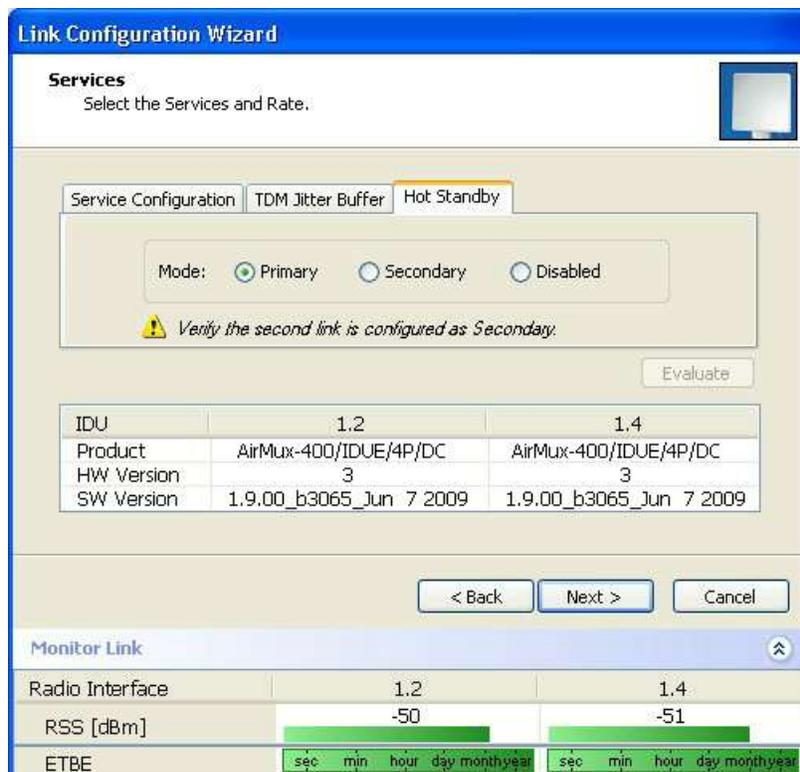

Figure H-5. Services Configuration Panel, Hot Standby Tab Selected
2. Run the Configuration manager on the secondary link, and in the Hot Standby panel of *Figure H-5* above, check the Disabled button.
5. Again, run the configuration wizard on the secondary link, and in the panel of *Figure H-5* above, check the Secondary button to re-enable the link as secondary.
- Hot Standby mode – using the new Services panel in *Figure H-5* above
2. Run the Link Manager and use Hot Standby tab of *Figure H-5* above to configure the new ODU to Primary or Secondary mode as required.
3. Ensure that it is set to the proper HSS mode in accordance with *Figure H-5* above. Enter the required Link ID and frequency.